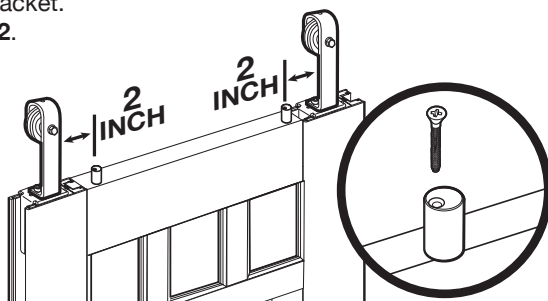

Figure 12
Once the Rolling brackets have been secured and the finishing strips in place, it is important to install the Safety spacers (W). These spacers help to protect the door from being bumped off of the track. With the door laying flat in a safe and secure position, place one of the two spacers approximately 2" to the inside of one of the roller brackets. Place slightly off center towards the front of the door. Using a drill, secure the spacer with the screw provided. Repeat steps to install the second spacer inside the other roller bracket. See Figure 12.
See Figure 12.